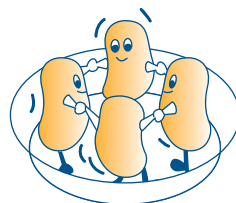

fig. 10
- 5) If you are cooking a number of portions of the same type of food (eg. boiled potatoes), arrange the portions **in a ring** around the outside of an oven-proof dish to ensure they cook evenly (see fig. 10).